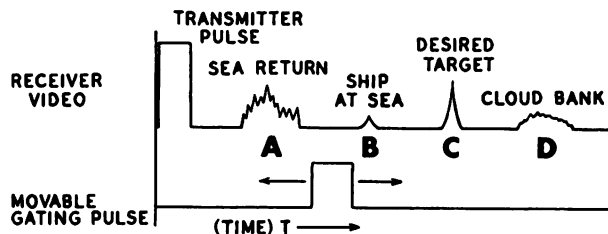

Figure 3B.
● The receiver video signals shown in figure 3B are typical of the signals that a missile-borne radar is likely to pick up. These signals appear at the output of the receiver during the search phase of operation. After the receiver locks on, the output is quite different because of the action of the gate pulse and the enabling voltage. Items 7 and 8 discuss the action of the radar during the range-tracking phase.
7. If the radar whose signals are shown in figure 3B is locked on the desired target and the range of the target is decreasing, how does the gate pulse react to the changing range?
8. After the radar whose signals are shown in figure 3B is locked on the desired target echo, the receiver enabling pulse will eliminate all signals except the